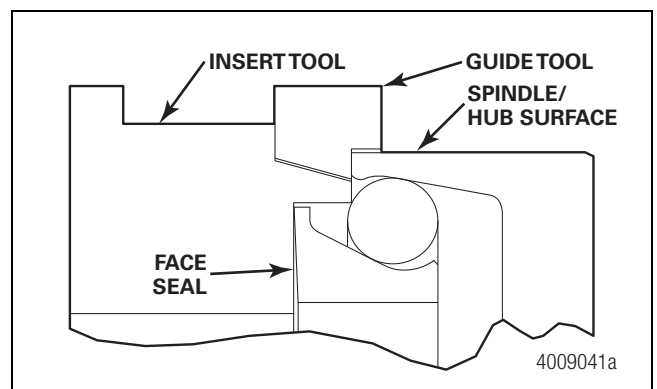

Figure 9.7
11. Dip the spindle half of the face seal into isopropyl alcohol, and while it is still wet, use the special driver to manually install the seal squarely into the spindle. Do not use a hammer or press for installation. Figure 9.7.